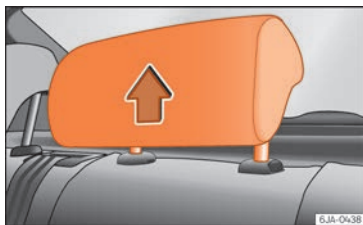

Fig. 75 Head restraints in the correct position.
- Three positions for **use** » **Fig. 75**. In these positions, the head restraints are used normally, and along with the rear seat belts, protect passengers in the rear seats.